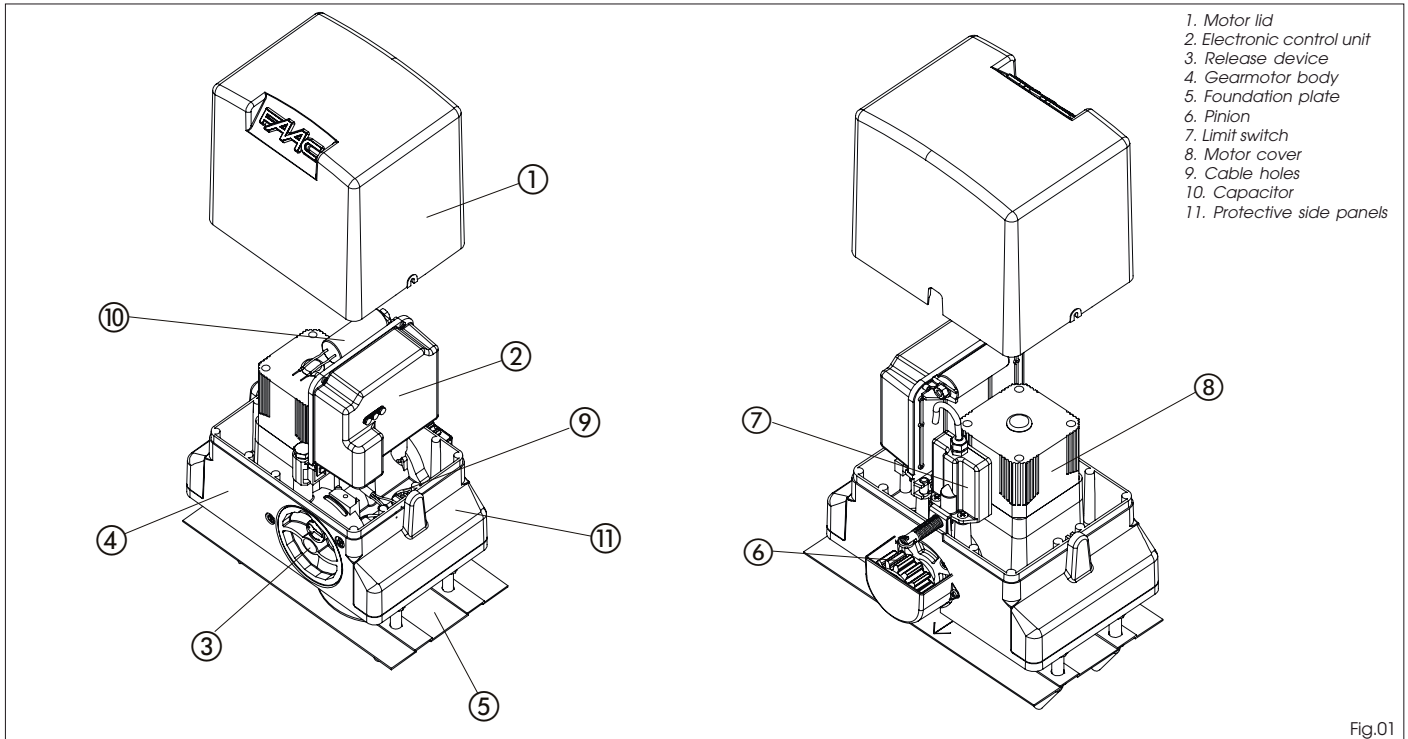

Fig.01
- 2- Position the operator on the foundation plate, using the supplied washers and nuts as shown in Fig. 09. During this operation, route the cables through the appropriate openings in the motor body (See Fig.01 ref.9). If necessary, the two holes can be joined using a hammer to obtain a wider space.